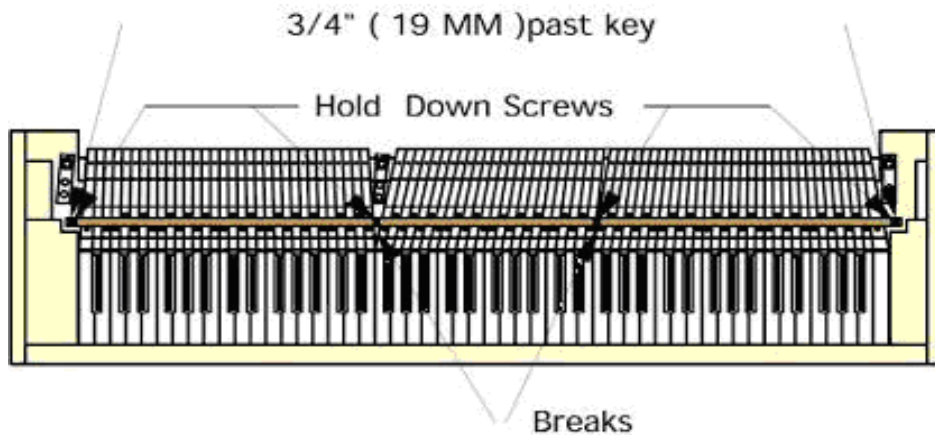

Figure 27
- A.** Measure from key #1 to #88 at the balance rail. Add 3/4" past each end key (1 and 88) to accommodate a hold down screw. (See Fig. 27)
- D.** Place a mark at the (4) locations for the hold-down screws. One at each end and one at each break. (See Fig. 27)
- E. Use a 7/32" (5.6mm) drill bit and drill the (4) locations just marked on the bar. File off any burrs.